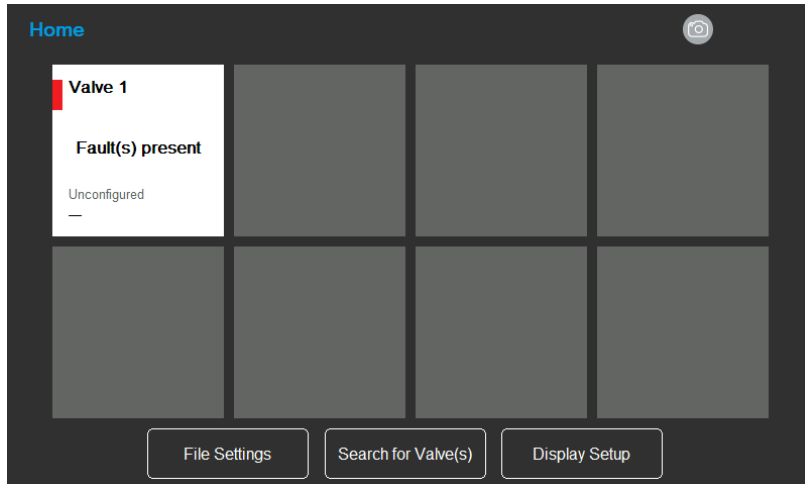
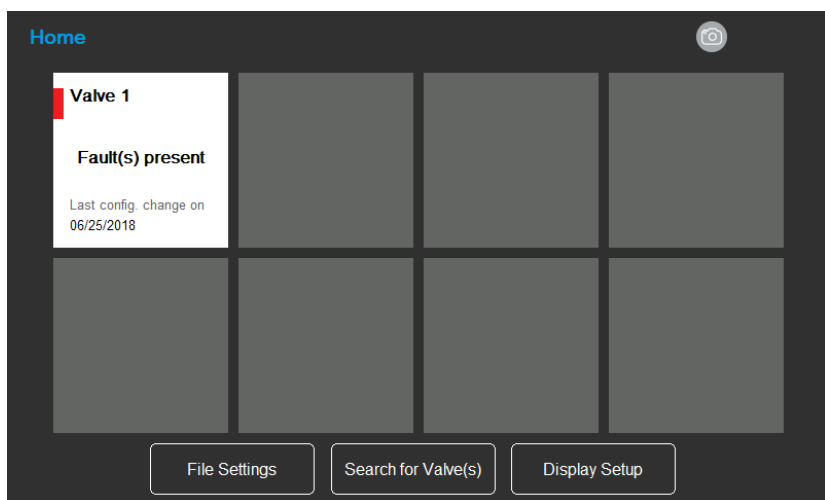
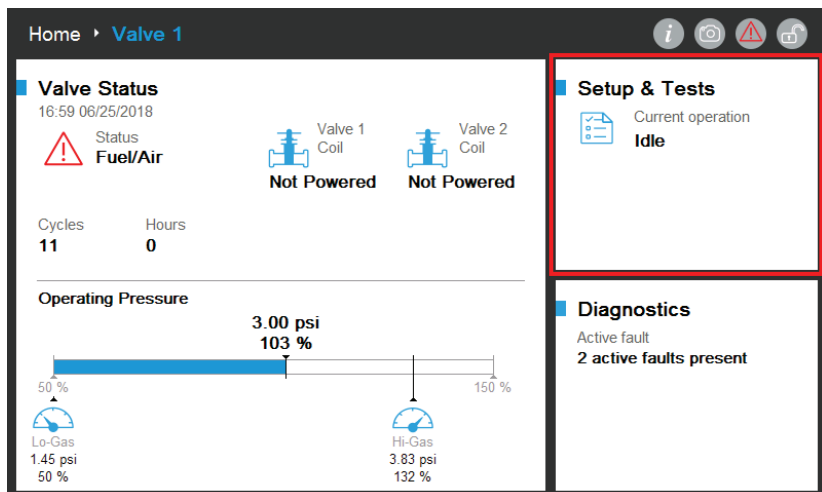

Fig. 99: Unconfigured valve tile on user interface.
Fig. 111: Configured valve tile on user interface.
Fig. 112: Valve status page.
1. With the valve connected to the user interface (HMI Tool or PC Tool), navigate to the Home page. The attached unconfigured valve(s) are identified via the text 'Unconfigured' at the bottom of the valve tile(s). Refer to Fig. 99.
- b. Select the 'Finish Setup' button to finalize the valve cloning procedure and return to the Valve Status page (refer to Fig. 111).
1. With the valve connected to the user interface (HMI Tool or PC Tool), navigate to the Home page. The attached configured valve(s) are identified via a date stamp at the bottom of the valve tile(s). Refer to Fig. 111.
2. Select the appropriate connected valve tile. The valve status page will be displayed. Refer to Fig. 112.
12. Select the 'Home' wording at the top to go to the Home page (refer to Fig. 99 and Fig. 111) or the valve name wording to go to the valve status page (refer to Fig. 112).